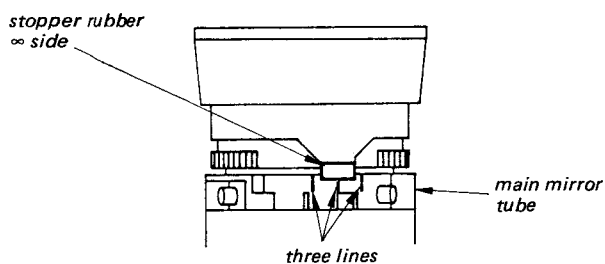

Fig. 1-7
- 6) Set the stopper rubber " ∞ " side to the center of three lines on the main mirror tube (see Fig. 1-7).